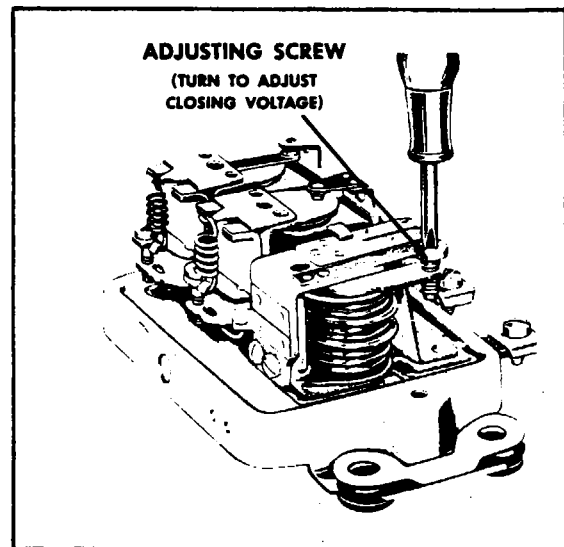

Figure 11-13. Adjustment of Cutout Relay Closing Voltage
d. Adjust closing voltage by turning adjusting screw. (Refer to Figure 11-13.) Turn screw clockwise to increase setting and counterclockwise to decrease setting.
(a) Connect ammeter into charging circuit as in Figure 11-13.